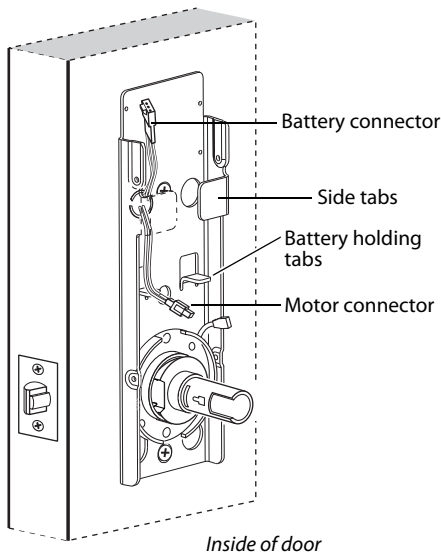

Figure 15 Routing the wires on the fire plate
- 1 Route the motor connector wires underneath the side tabs, as shown in Figure 15.